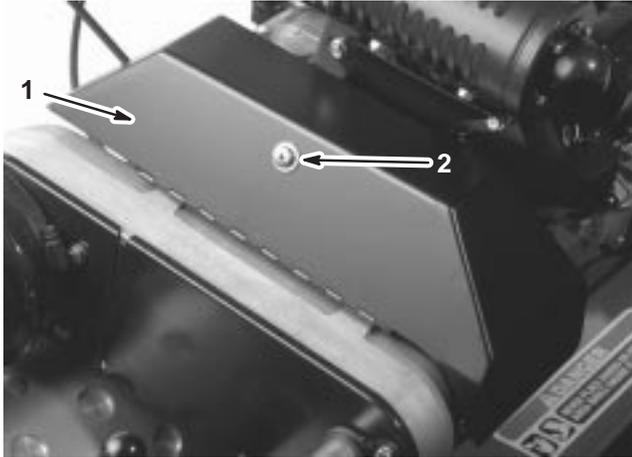

Figure 39
- Loosen the retainer securing the V-belt cover and pivot the cover open (Fig. 39).